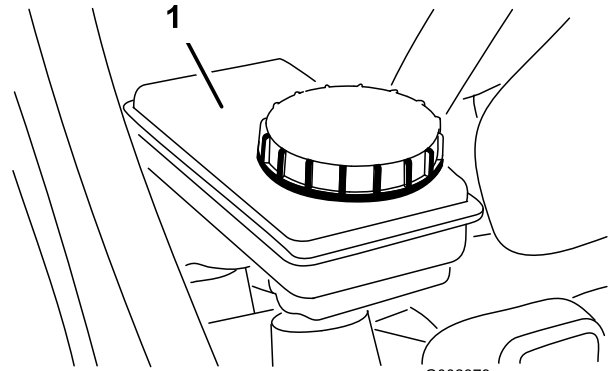

Figure 51
5. Ensure that the fluid level is up to the Full line on the reservoir (Figure 51).
6. If the fluid level is low, clean the area around the cap, remove the reservoir cap, and fill the reservoir to the proper level with the specified brake fluid (Figure 51).